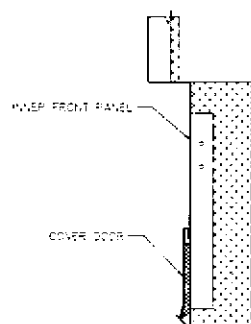

FIGURE 11
6. Place the Secondary Air Cover Door at bottom of Inner Front Panel. The top bend of the Cover Door slips over the top reverse bend at cut out opening of the Inner Front Panel. Refer to Figure 11.